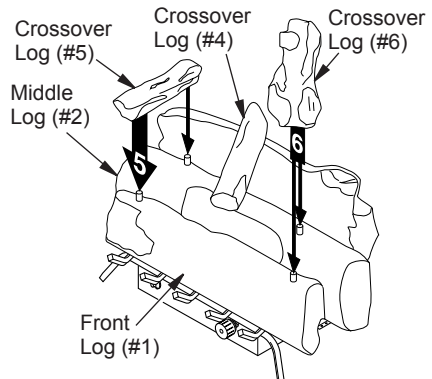
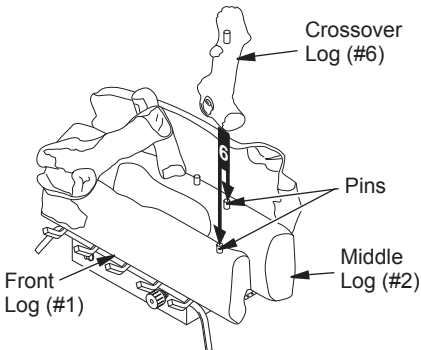

Figure 24 - Installing Crossover Log #5 and Log #6 (CCL3018PTA/NTA Only)
Figure 25 - Installing Crossover Log #6
For CCL3018PTA/NTA Only: Locate holes on bottom of crossover log (#5). Slide holes over left pins on middle log (#2) and front log (#1). See Figure 24.
6. Locate holes on bottom of crossover log (#6). Slide these holes onto right pins located in middle log (#2) and front log (#1). See Figure 25, page 18 for CCL3924PTA/NTA. See Figure 24 for CCL3018PTA/NTA.